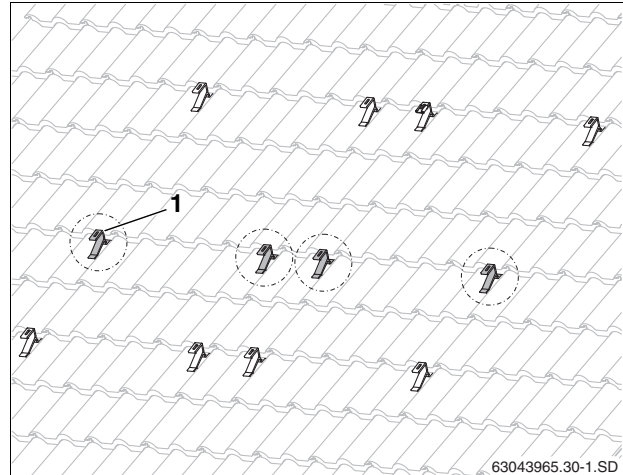

Fig. 25 Additional roof hooks for the accessory rails (here: for two collectors)
- The third row (Fig. 25, [1]) should be centered between the upper and lower rows already installed.